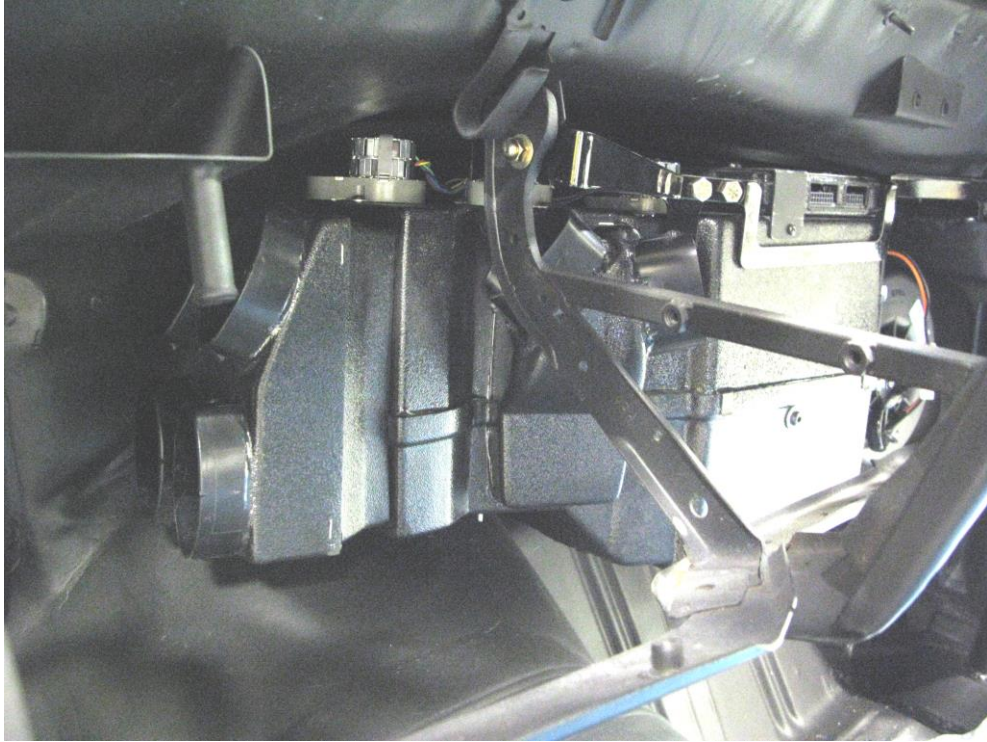

Figure 6 – Unit Installed
11. Figure 6 below shows the unit installed in the vehicle.